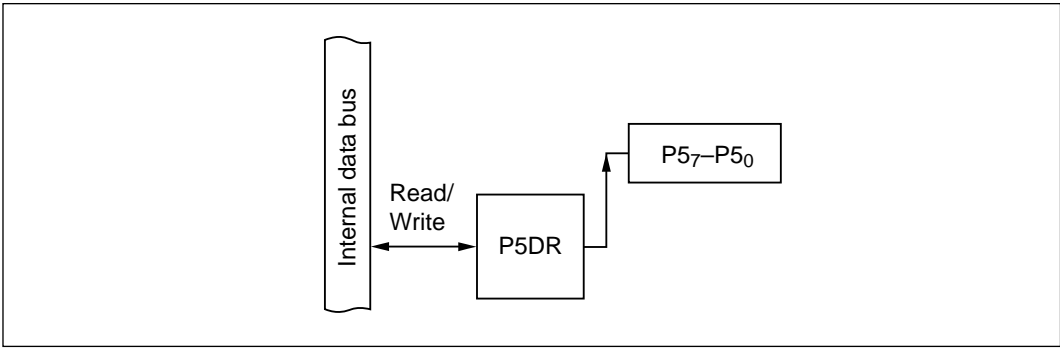

Figure 9-30 Output Port (Modes 1 to 7)
- (2) **Output Port (Modes 1 to 7):** Figure 9-30 shows a block diagram illustrating the general-purpose output function. Table 9-22 indicates register read/write data. The value written in the port 5 data register (P5DR) is output at the pin. When read, P5DR returns the value written in P5DR.